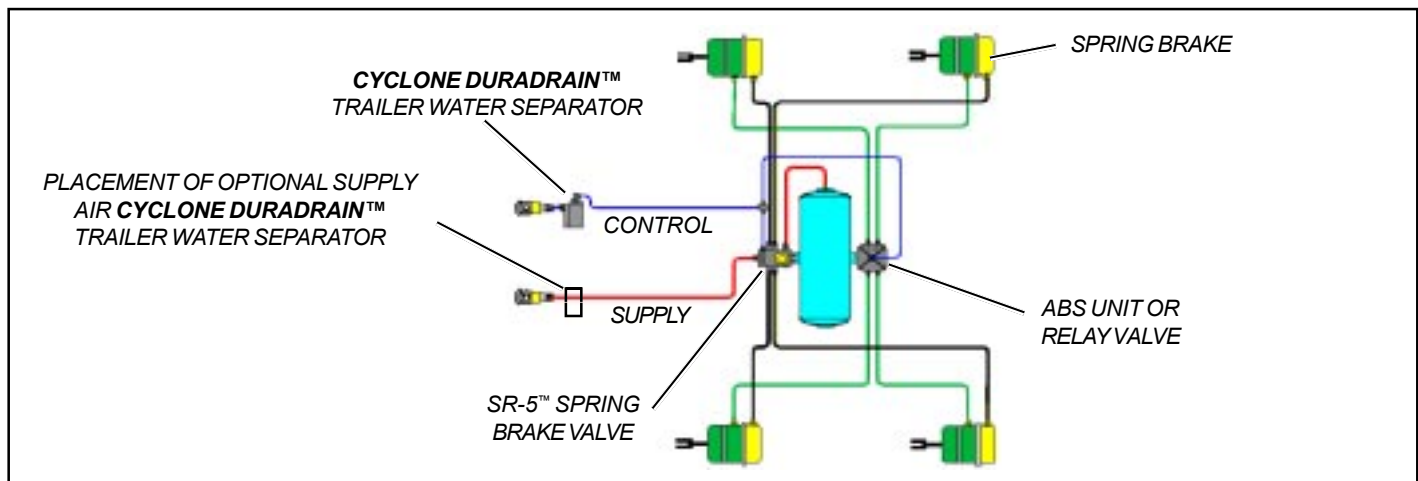

FIGURE 3 - TRAILER SCHEMATIC
A Cyclone DuraDrain™ trailer water separator can be installed in the control and/or the supply line of the trailer between the gladhand and the first valve in the trailer system. See Figure 3 Trailer Schematic.
2. Locate a mounting position on the trailer frame rail or crossmember. Using the Cyclone DuraDrain™ trailer water separator as a template, mark the location of the mounting holes. Carefully drill two mounting holes. Consult with the trailer manufacturer prior to drilling any holes in the frame rail or crossmember. If a mounting spacer is used, install as shown in Figure 3. Secure using grade 2 or 5 mounting hardware.